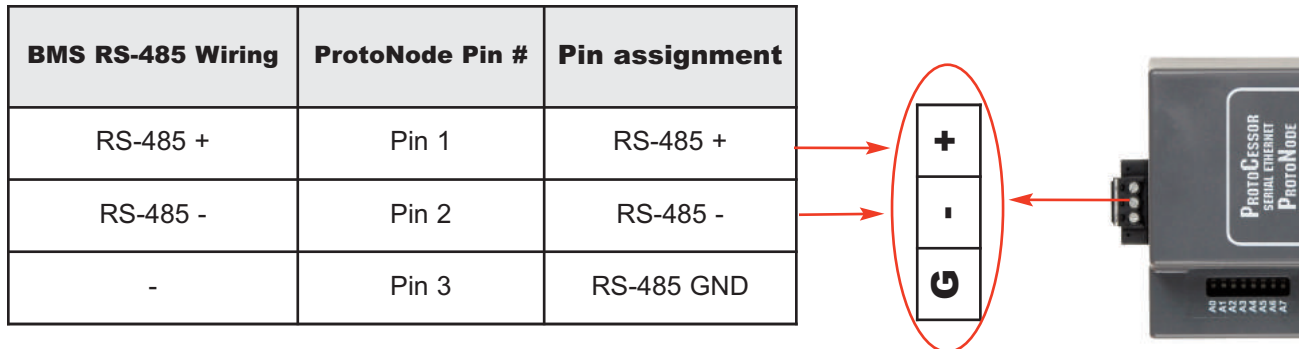

Fig. 8: Connection from ProtoNode to RS-485 Field Protocol –BACnet MS/TP
- 7 Connect the ProtoNode's 3 pin RS-485 port to the Field Protocol cabling. (See Fig. 8)